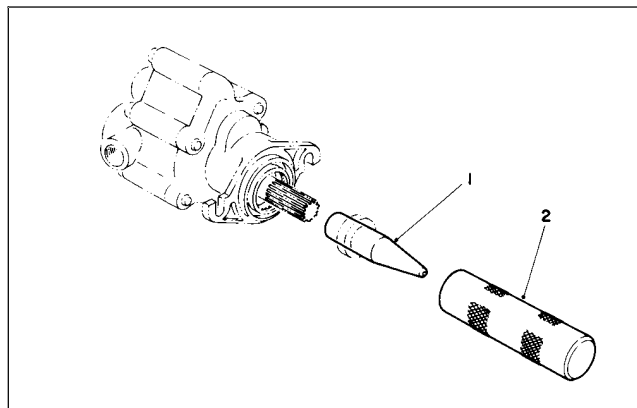

Figure 95
3. Remove snap ring from motor (Fig. 95).
4. Install threaded metal o-ring seal plugs in the two (2) pressure ports on the motor or put metal threaded caps on the fittings in these ports.
5. With motor shaft pointed away from you into a clean five (5) gallon container, attach a hydraulic load (hand pump) or compressed air to the case drain port.
6. With the motor shaft pointed away from you into a clean five (5) gallon container, gradually apply pressure to the case drain port. The seal should come out of the motor seal cavity.